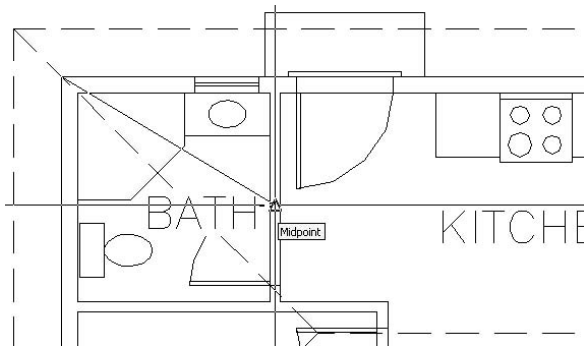

FIGURE 11.12: Selecting the jamb with Midpoint Osnap
3. Activate Midpoint Osnap and click the upper jamb line of the bathroom door opening when the triangle appears at the jamb's midpoint (see Figure 11.12).